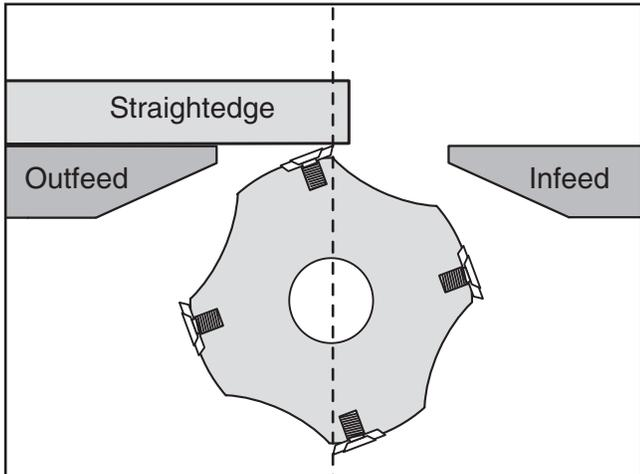

Figure 49. Using straightedge to check outfeed table height.
- Use outfeed table handwheel to set outfeed table so insert barely touches straightedge, as shown in **Figure 49**.